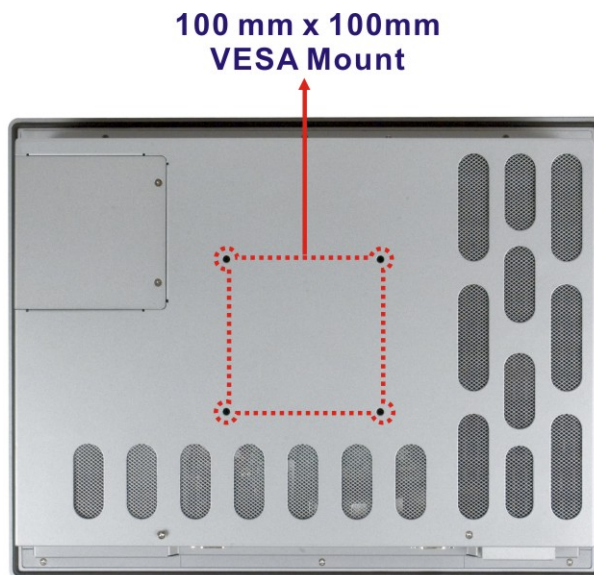

Figure 3-20: Stand Mounting Retention Screw Holes
Step 1: Locate the screw holes on the rear of the PPC-5152-D525-E. This is where the stand bracket will be attached. The stand mount retention screw holes are shown in **Figure 3-20**.